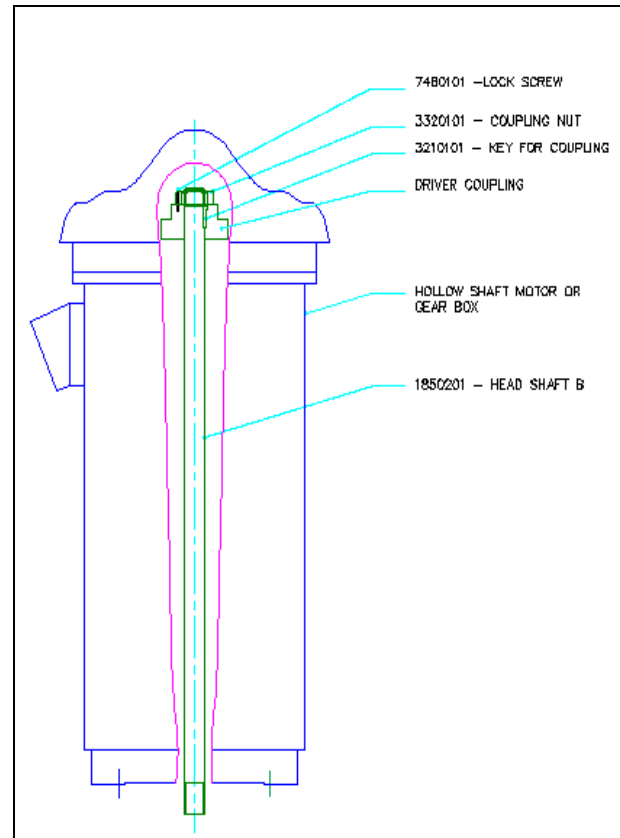

Fig 6
5. Remove top cover and driver coupling (Fig.6) slowly from the driver. Take out ratchet pins if are coupled with driver coupling.
8. The driving mechanism of all hollow shaft drives is shown on Figure 6. The head shaft B (1850201) extends up through the quill or hollow shaft of the driver and is held in place by an adjusting/coupling nut (3320101), which not only carries all the static and hydraulic thrust of the impellers and shaft but also provides the adjustment for the impeller clearances.